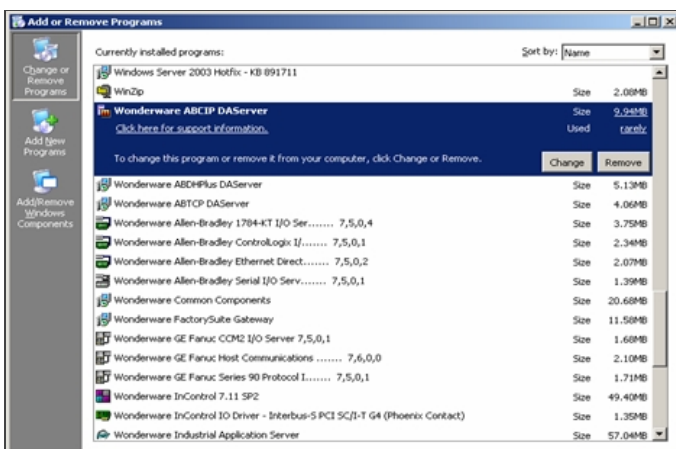

Figure 2: Check DAServer Version
2. Locate the Wonderware DAServer in question and highlight the list item (Figure 2 below):